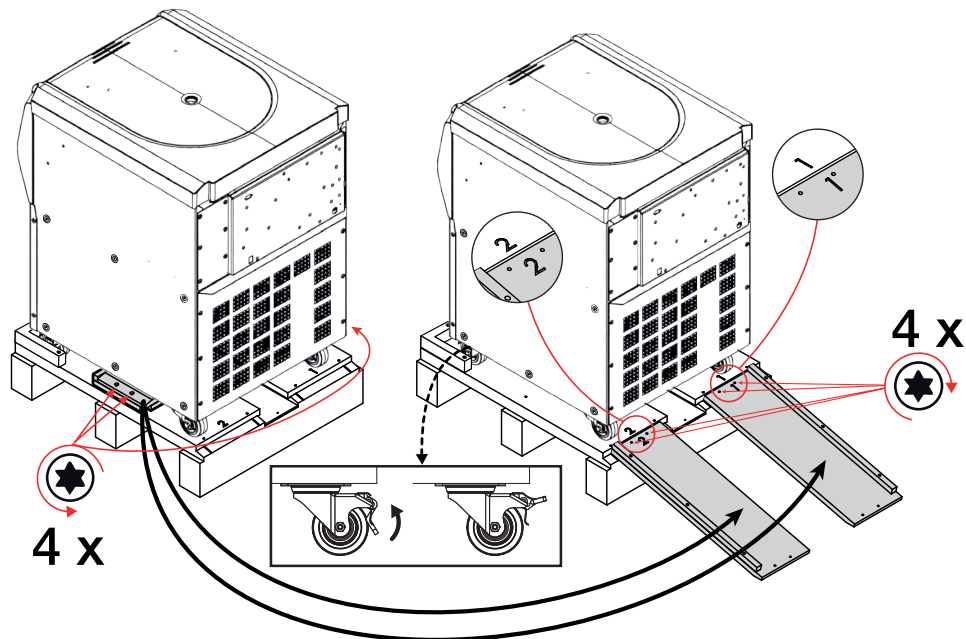

Figure 1-7: Mounting the Rails for Unloading
10. Locate the rails in the middle of the pallet underneath the centrifuge, as shown on the left side in Figure 1-7.
13. Place each rail at its correct location just before the two rear castors of the centrifuge, as shown on the right side in Figure 1-7.
- c. The pallet has a beveled edge. The end of the tab must rest on the beveled edge and be completely flush with the top surface of the pallet, as shown in Figure 1-7.
15. Using two of the leftover woodscrews, fasten each rail to the pallet, as shown on the right side in Figure 1-7.